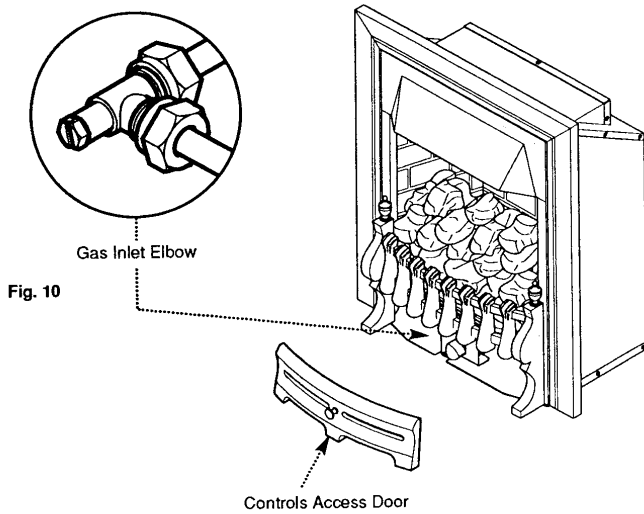

Fig. 10
2. The supply is to be a concealed connection it would be advisable to route the supply to the left side of the unit taking into account the requirements of BS 6891:1988 dealing with enclosed pipes. An 8mm restrictor elbow can be positioned under the fire on the left hand side with a compression connection at each outlet. The pipe can then be routed to the inlet elbow. (Fig. 10)